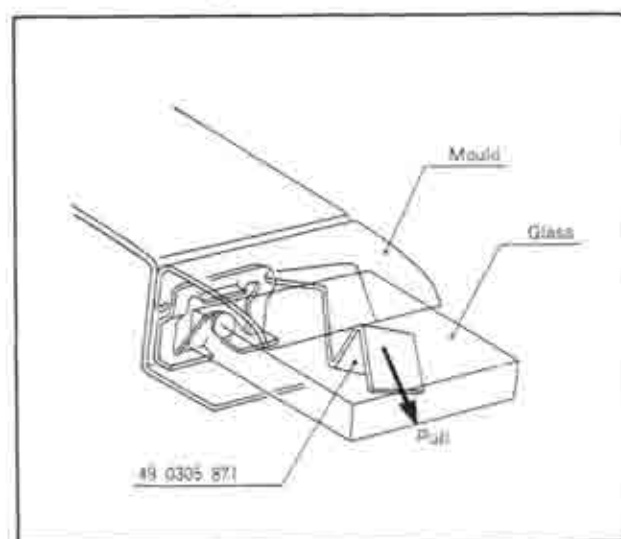

Fig. 14-3 Removing of mould
3. Using the mould remover (49 0305 871), remove the mould in the manner shown in Fig. 14-3.